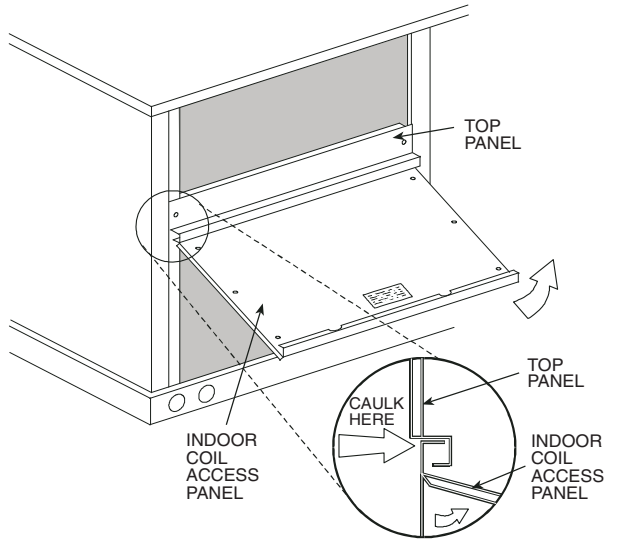

Fig. 10 - Indoor Coil Access Panel Relocation
- The indoor coil access panel will be used as the top of the hood. Remove the screws along the sides and bottom of the indoor coil access panel. See Fig. 10.